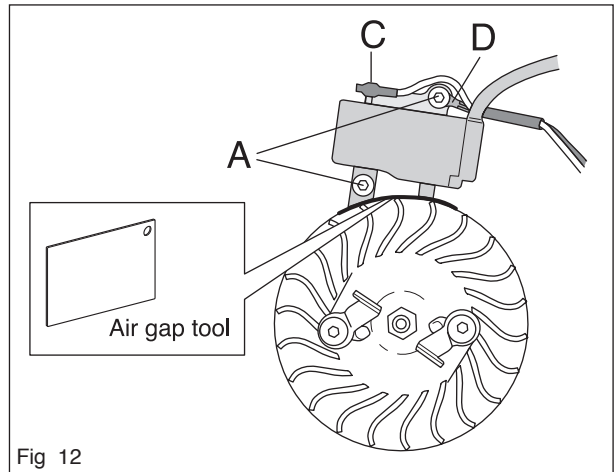

Fig 12
Turn the flywheel so that the magnets are in line with the ignition module. Fit the ignition module with the plastic feeler gauge (502 51 34- 02) held in position at the same time, without tightening the bolts. Fit the earth cable (black) (A). Set a distance of 0.3 +/- 0.1 mm, between the ignition module and magnet. The measurement applies to the two lowest lugs on the ignition module. Tighten the screws, tightening torque 4–6 Nm. Fit the blue cable on the ignition module (see figure 12).